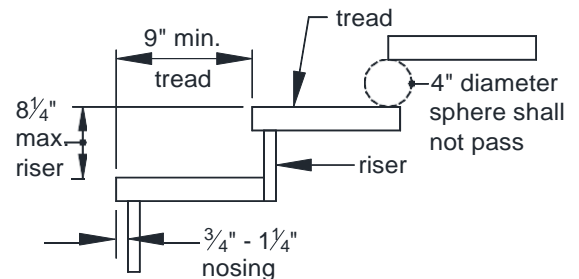

FIGURE 37: TREADS AND RISERS
- Stair geometry and opening limitations shall meet the requirements shown in FIGURE 37. Treads, risers and nosing dimensions shall not deviate at each step by more than $\frac{3}{8}$ inches.